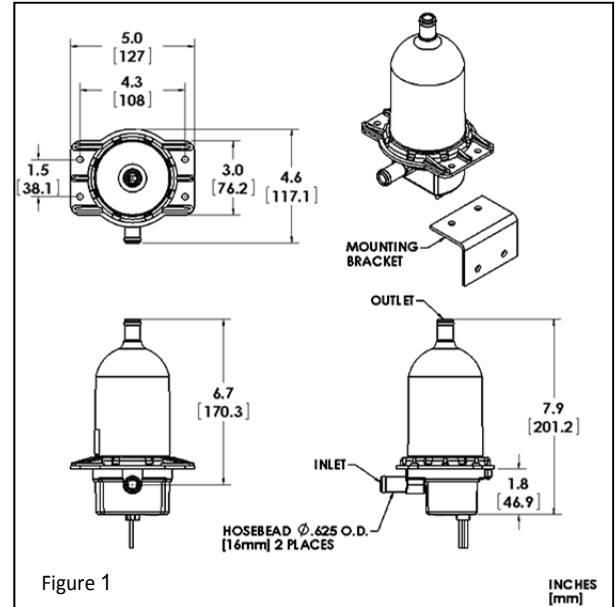

Figure 1
Before selecting a mounting position, consider the impact of: mounting locations, jacket heater inlet and outlet ports, engine coolant ports, as well as the routing for hoses and electrical cord. The supply hose to the heater and the return hose to the engine should preferably be on the same side of the engine and as far apart as possible with coolant drawn from the front and returned to the rear of the engine, with the port where coolant is returned to the engine ideally higher than the port where the coolant is pulled from. This allows for maximum heat distribution throughout the engine. See Figure 1 and 2 showing recommended plumbing locations.
2. Using supplied hardware, mount heater to the engine frame or skid ensuring that the jacket heater outlet is as close to directly below where the coolant will be returned to the engine as possible and that the heater is below the lowest point of the water jacket. See Figures 1 and 2.